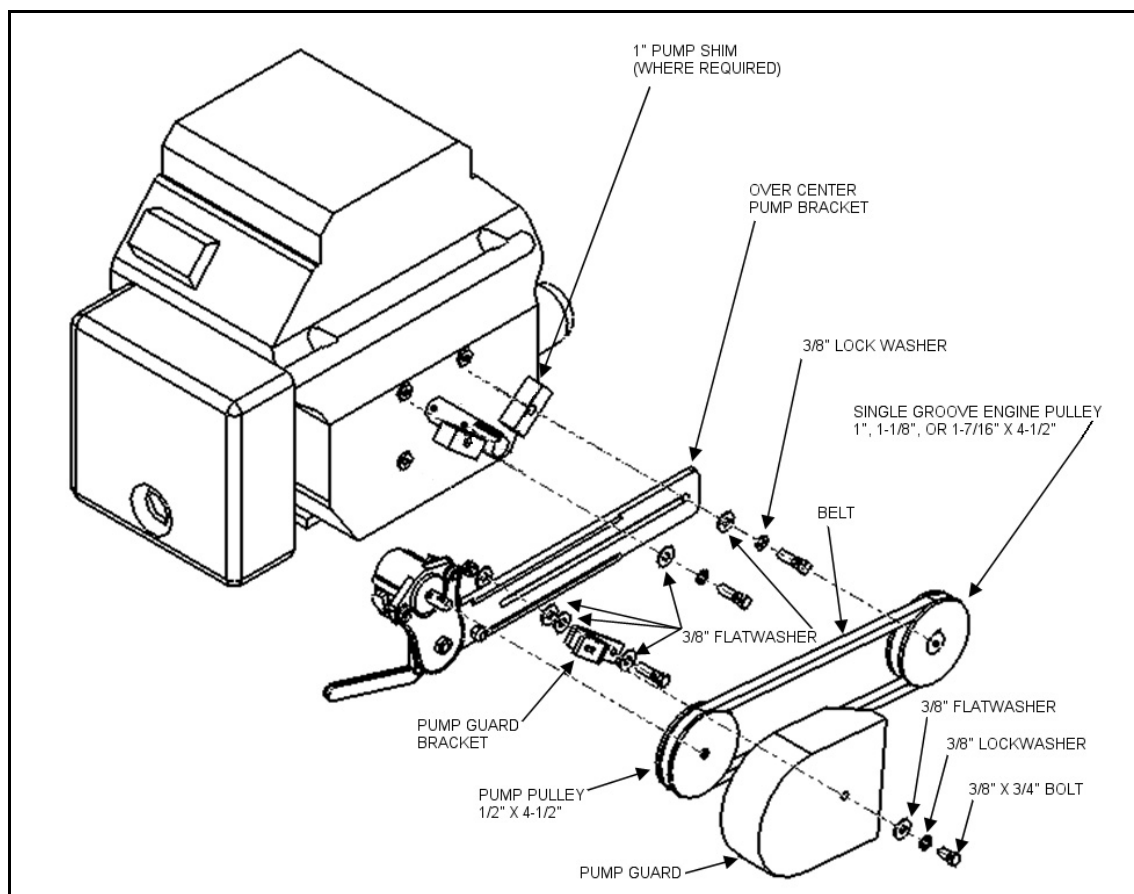

Figure 3.1 Gear Pump Installation Guard
Refer to Figure 3.1 for assembly.
**Note:** *The engine pulley guard is removed from Figure 3.1 for illustrative purposes only.*
1. The over-center (o/c) pump bracket comes pre-assembled and is attached to the engine block with two 3/8" bolts. Use 1" pump shims to provide a flat mounting surface for the o/c pump bracket (Figure 3.1).
1. Bolt the pump guard bracket to the over-center pump bracket using one 3/8" x 1-1/2" bolt, washers, and locknut (Figure 3.1).